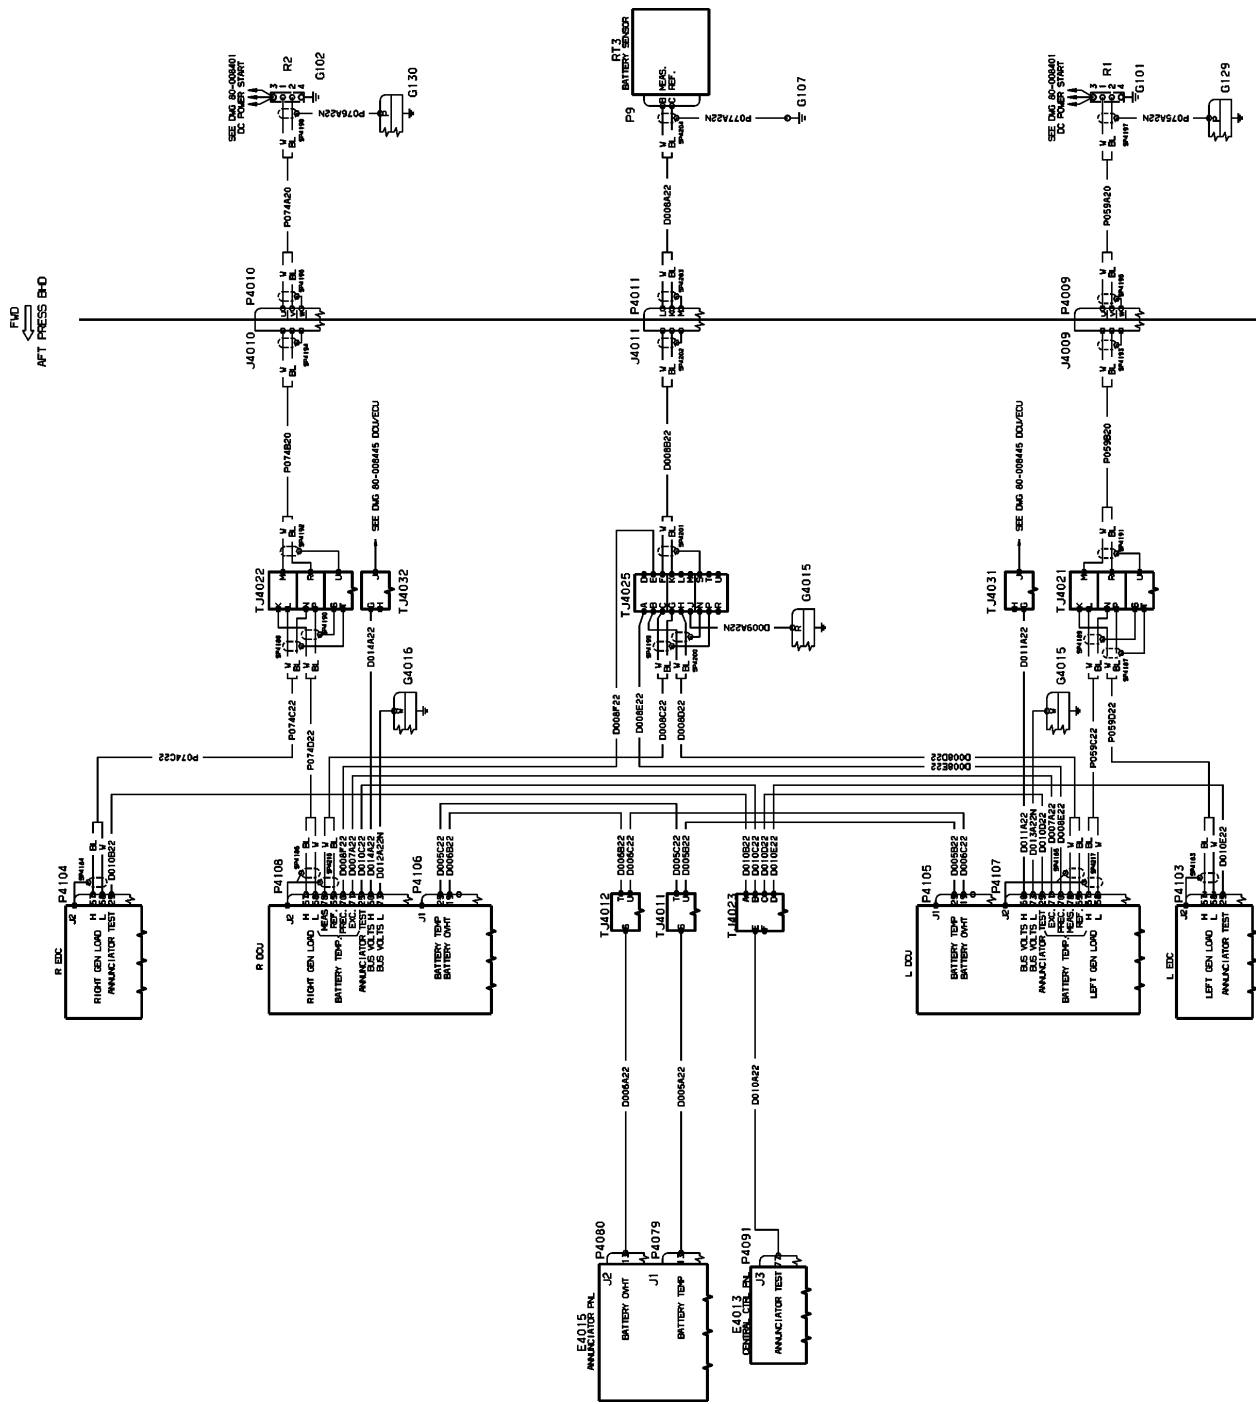

Fig. 1 - Battery Temperature System - Schematic
2. Description (Ref. Fig. 1)
3. Operation (Ref. Fig. 1)